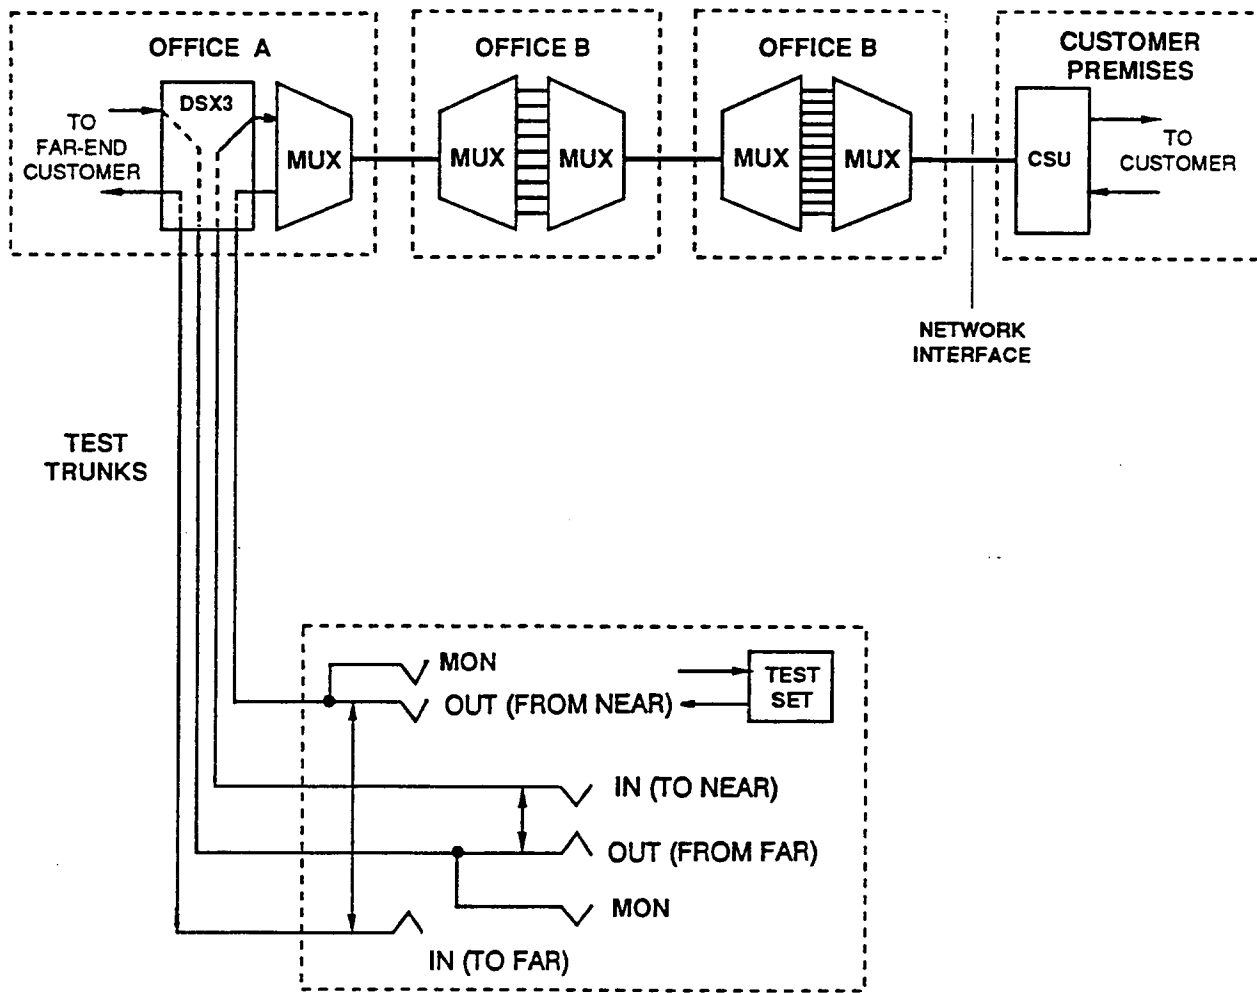

Fig. 4 - Example of Digital Service Facility with Test Set Access
**4.01** Figure 4 shows an example of the near-end of a digital service facility with the digital service node (DSN) patched for testing.